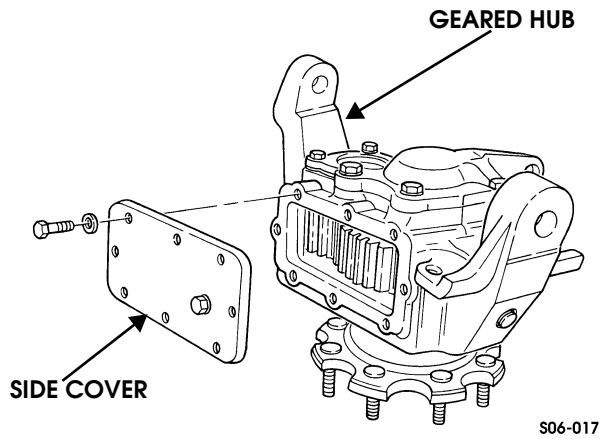

Figure 9-34: Geared Hub Side Cover Removal
23. Clean sealing surfaces on geared hub and side cover. Apply anaerobic sealer to side cover and install on geared hub (Figure 9-34).